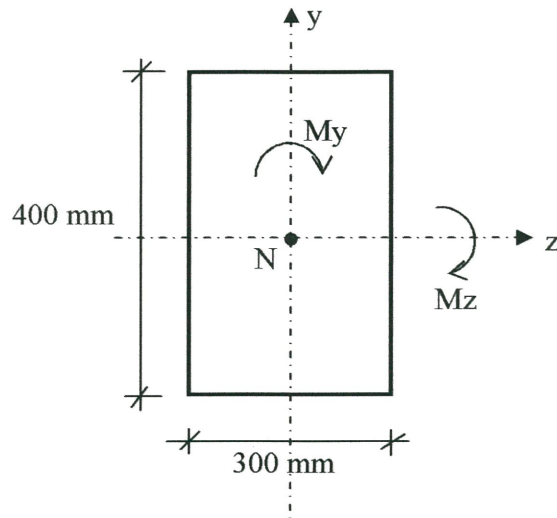

Figure Q2
- (b) **Figure Q2** shows a cross-section of a short braced column of size 300 x 400 mm. The effective height of the column is 3.5 m. The column is subjected to biaxial moments of $M_{z-z} = 90$ kNm and $M_{y-y} = 70$ kNm and an axial design load of 1500 kN. Given the following data: